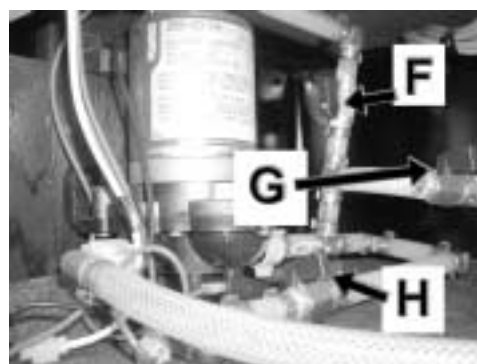

Fig. 4-28
6. Close valve H and G. (Fig. 4-28)